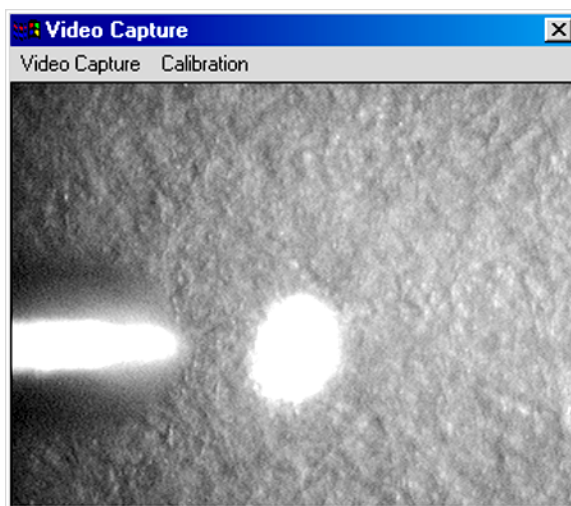

Figure 62 Properly aligned laser spot
- 10 Select the **Play (Start)**  button to turn on the laser. If the laser optics are properly aligned, the dimple should be in the center of the laser spot, and the laser beam should create a small fluorescent ellipse centered on the dimple. See the example in Figure 62. If the laser is not properly centered on the dimple, the laser spot must be repositioned.
- Once adjusted, the laser position should resemble Figure 62 from the previous step in this procedure.